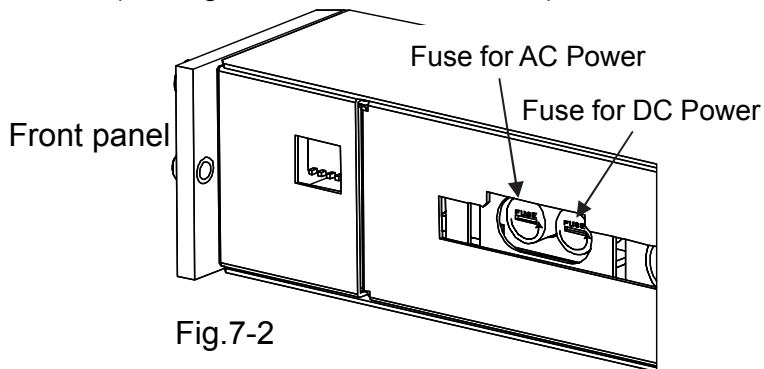

Fig.7-2
2. As shown in Figure 7-2, place the amplifier unit so that the front of the unit to be left side, bottom of the unit to be in the front, and the rear of the unit to be right side.
7. Confirm that the fuse holder is fully installed in the amplifier unit as Figure 7-2. Also, confirm that the fuse holder slit (flat-blade screw driver contact portion) is parallel to the amplifier unit.